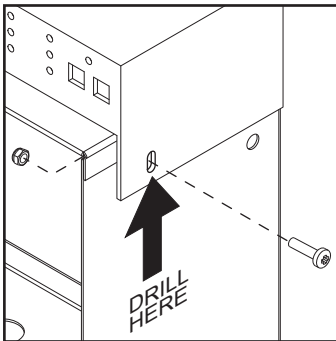

FIGURE 2
6. On the right side of the auto light controller there is a 1/4" slot. Using a 1/4" drill bit, drill through the existing control box. SEE FIGURE 2. **Note: Check for wires inside the box so the drill bit does not damage any wires.**
7. Secure the side of the controller using a 10-32 x .75" screw and nylock nut included in the kit. SEE FIGURE 2.